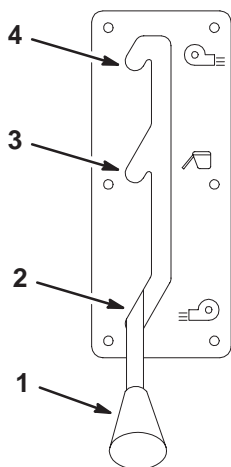

Figure 21
1. Disengage the quiet collector PTO control (Fig. 21).
1. To blow right, move the draft control to the lowest position (Fig. 21).
2. For collecting grass, move the draft control to the middle position (Fig. 21).
3. To blow left, move the draft control to the highest position (Fig. 21).